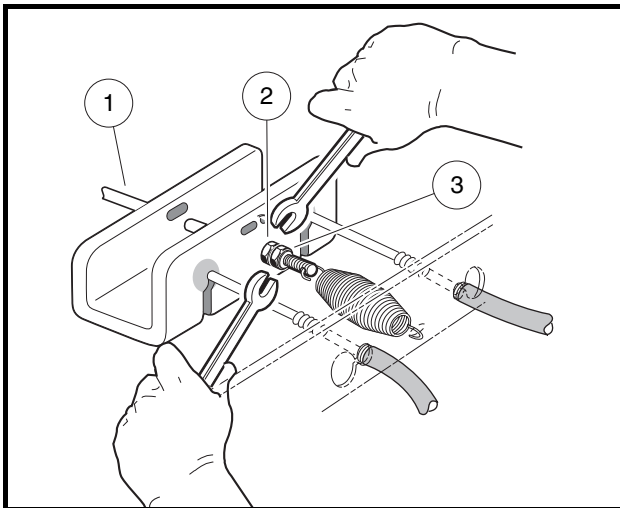

Figure 5-9 Loosen Rear Brake Equalizer Rod Nuts
- 2.2. To provide slack in the brake cables, loosen the equalizer retaining nuts (2 and 3) on the equalizer rods (1) (**Figure 5-9, Page 5-11**).